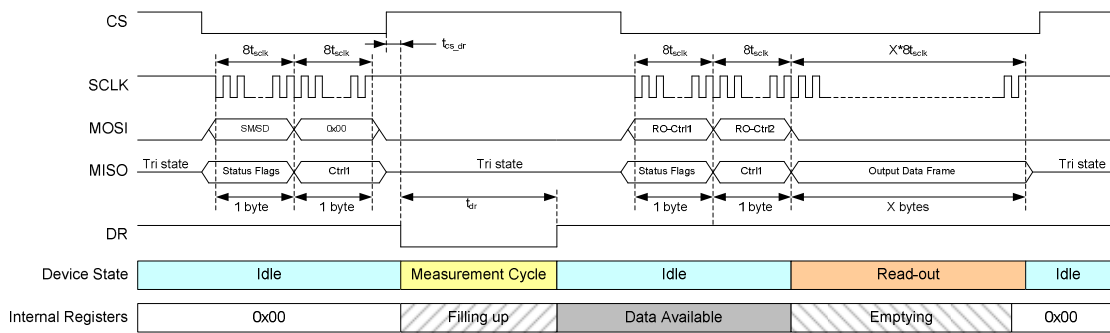

Figure 16: Separated SM - RO (X value is defined in Figure 15)
- Figure 16 shows the operation with separate SM and RO commands. After upload of a SM command, the measurement cycle will start and the internal registers will be filled. Once the DR pin is high, the RO command can be uploaded to start the read-out cycle. All data of the internal registers will be transferred and at the end of the read-out the registers will be cleared.